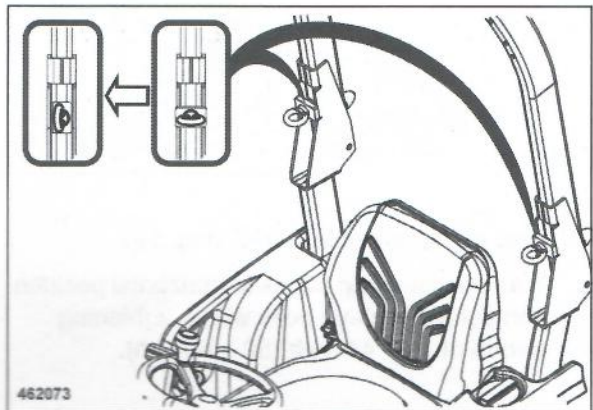

Fig. 53
- Loosen the eye bolts (Fig. 53) and adjust the clamping plates vertically.